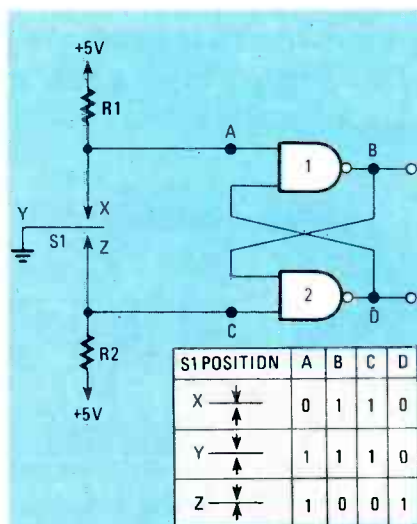

FIG. 4—DEBOUNCING CIRCUIT quickly and easily eliminates the problems of contact bounce.
7. DEBOUNCE GATES THAT ARE CONNECTED TO MECHANICAL SWITCHES. The contacts of a mechanical switch actually strike each other several times before they finally close. Each time those contacts "bounce", a pulse is created. Flip-flops, counters, and other trigger-dependent gates interpret those pulses as signals. Two NAND gates placed between the switch and the receiving gate (Fig. 4) act as a "contact debouncer".